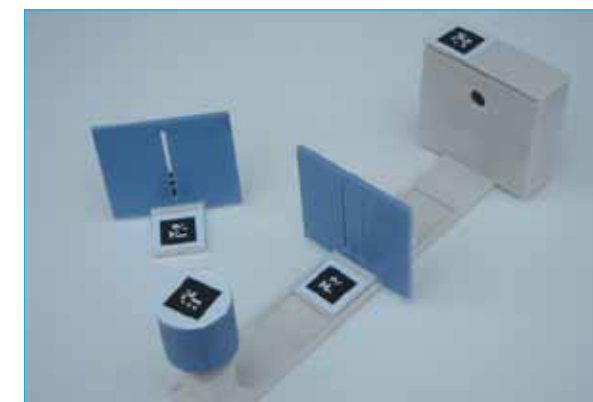

Figure 19 Miniature with double slit screen in place
The miniature (Figure 19) consists of:
1. Set up the miniature as shown in figure 19 using either the single or double slit. The slit that is not in use should be out of the field of view of the webcam. The background box should be oriented so that the AR marker is to the left.